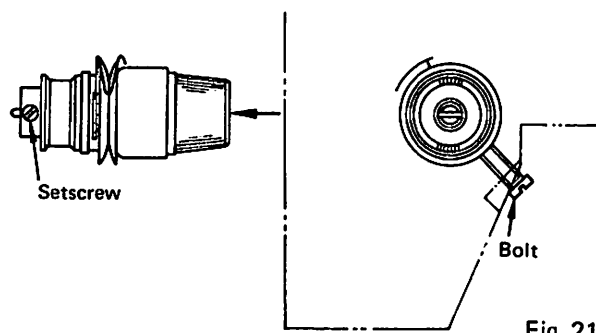

Fig. 21
- 3) To adjust the thread take-up spring (Fig. 21)